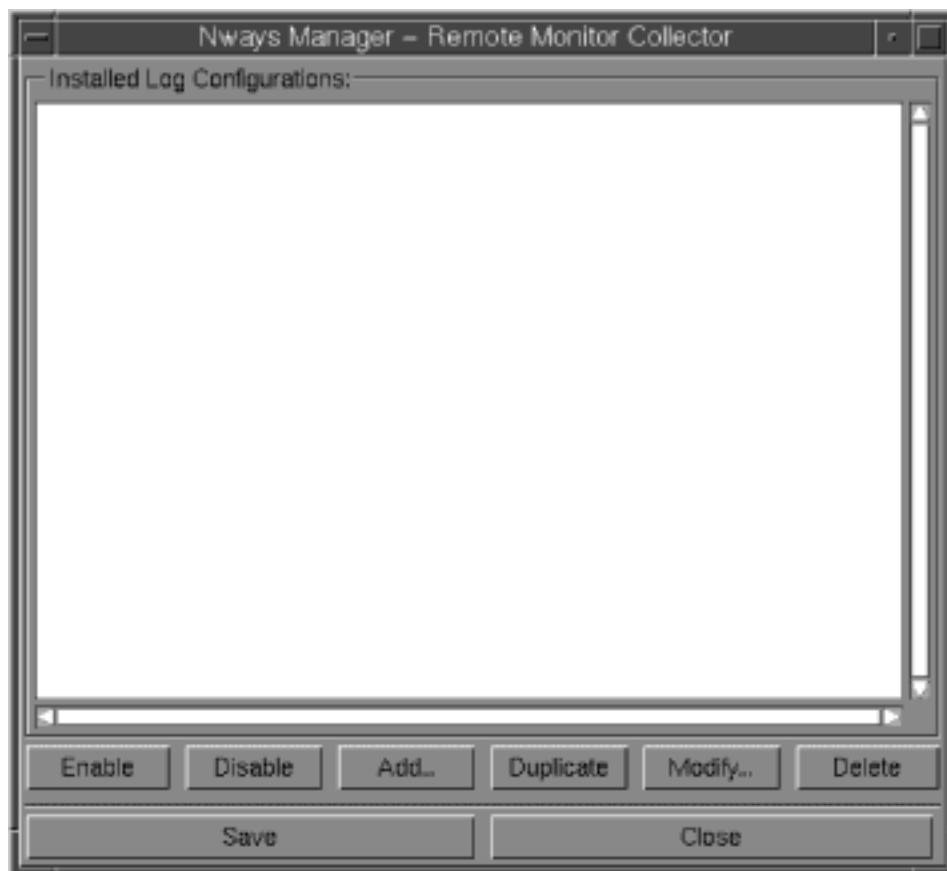

Figure 63. Collector Main Dialog Box
1. Select **Data Collector** from the Tools menu in the menu bar in Nways Manager Remote Monitor's main window. Open the Collector main dialog box (See Figure 63).
When you start the Collector, the application’s main dialog box will open showing a list of existing configurations (See Figure 63 on page 127). When you run the Collector for the first time, this list will be empty.